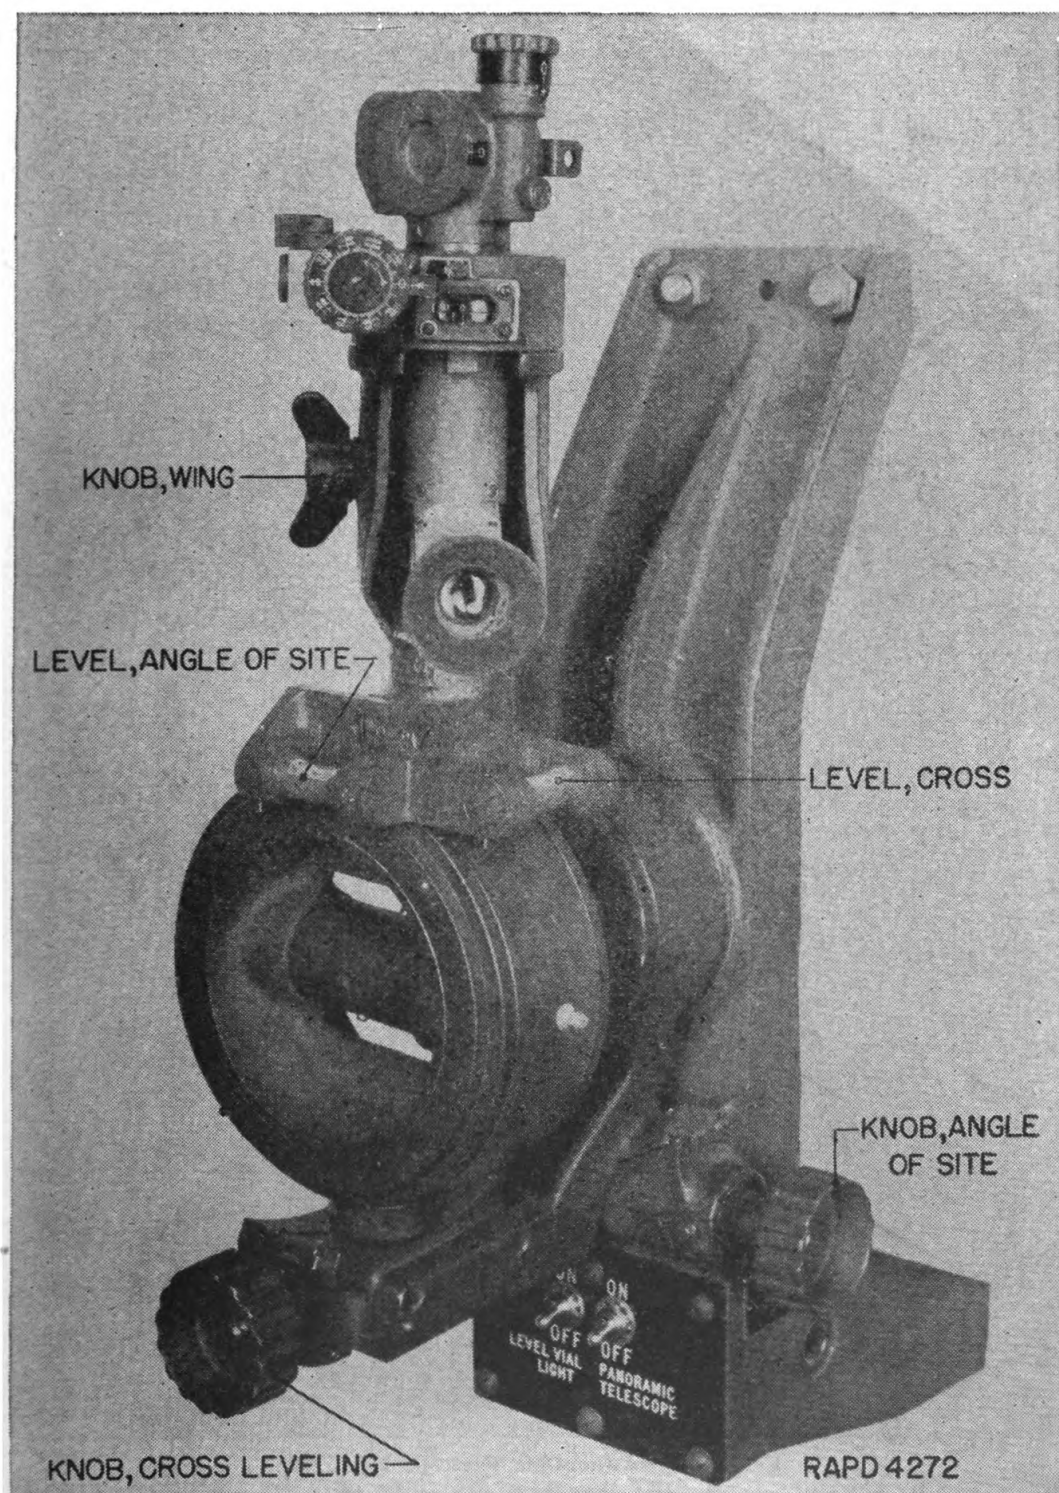
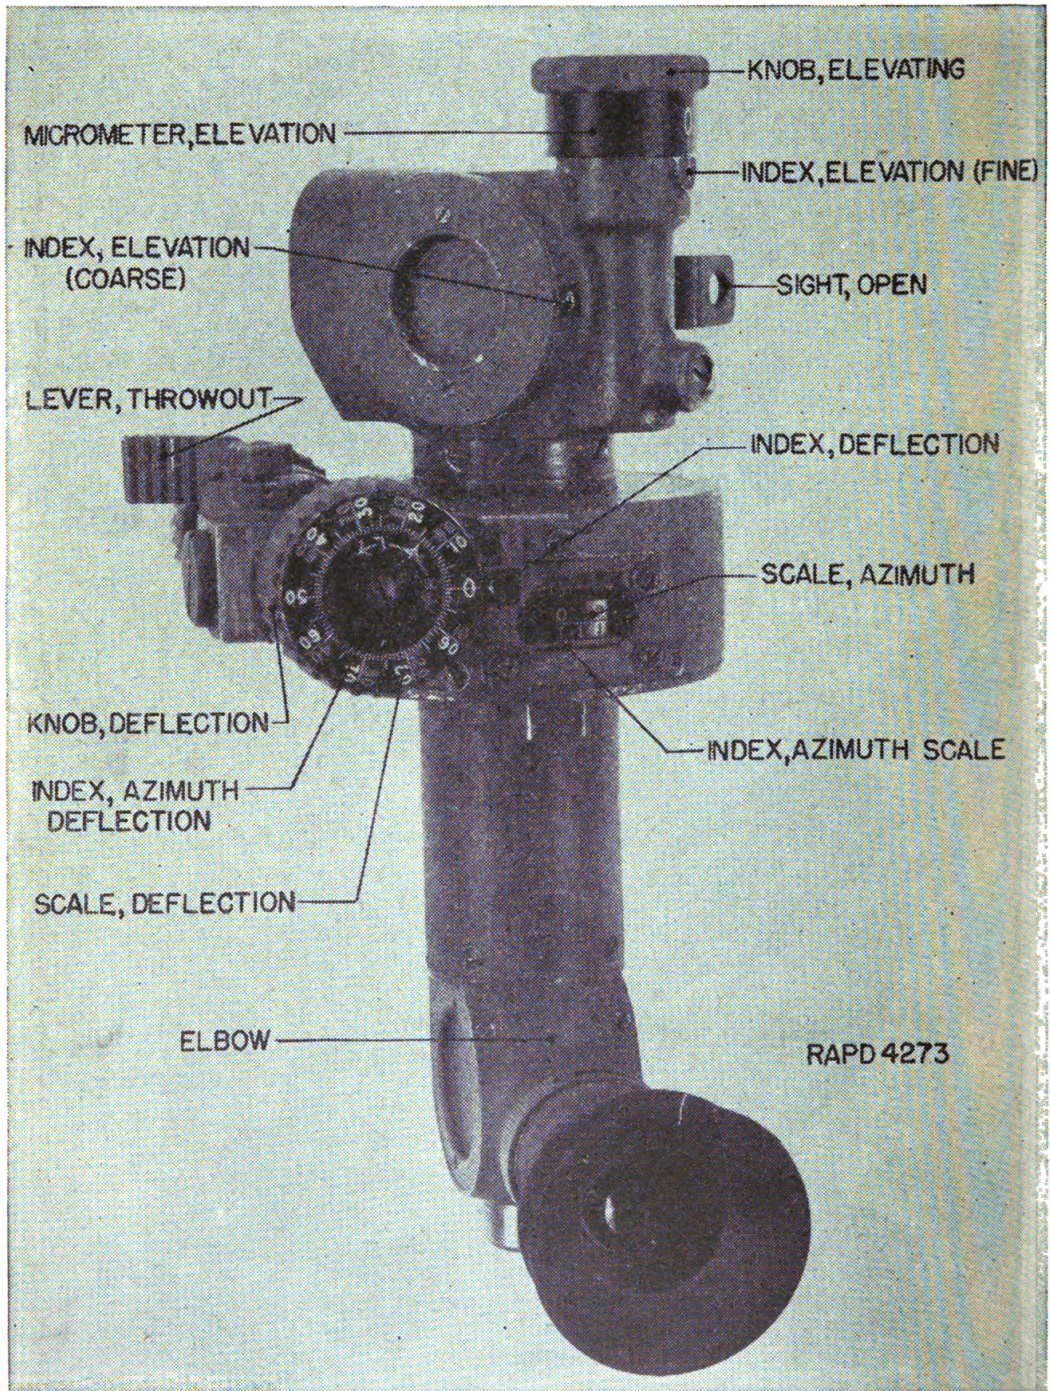

FIGURE 46.—Telescope mount M18A1 with panoramic telescope M5A5.
FIGURE 47.—Panoramic telescope M5A5.
**58. Mount, telescope, M18A1 and telescope, panoramic, M5A5.**—*a. Description.*—(1) The telescope mount M18A1 (fig. 46), equipped with the panoramic telescope M5A5 (fig. 47), is the sighting element for laying the gun in azimuth. No provision is made in this mount for setting off quadrant elevation or range, as this is accomplished by means of a gunner's quadrant placed on the quadrant mount M1 which is mounted on the right side of the gun carriage.